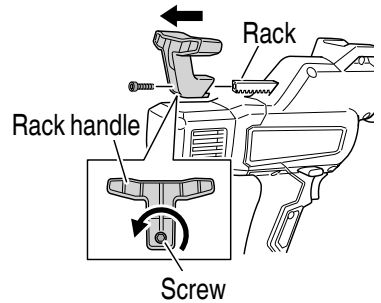

Fig. 12
- (2) Loosen the screw at the rear of the rack handle and remove the rack handle from the rack. (Fig. 12)